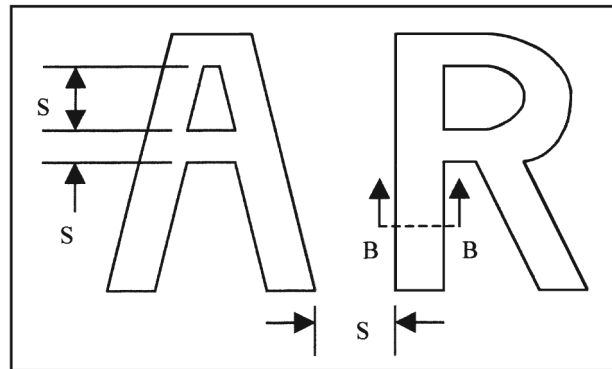

Figure 22A
Both raised and recessed letters and logos can be molded into RIM parts. The main thing to keep in mind to minimize molding flaws, and therefore part cost, is that RIM molding is a flow process. It does not use high pressure to fill out fine details in these features. The resin must have a path to flow in and the air a path to flow out in order to fill the feature without leaving voids. The key factors are: height or depth of the feature, width of the feature, radii on the feature and space between features (S). See figures 22A and 22B. These four factors also affect mold cost and lead time as discussed in Minimizing Mold Costs.
The inside or outside corners of the letters and logo in Figure 22A should have radii to minimize machining costs and part costs. Whether it's the inside or the outside corners depends on if you use raised or recessed characters. Premold Corp can help you with the details to ensure the most cost effective design.